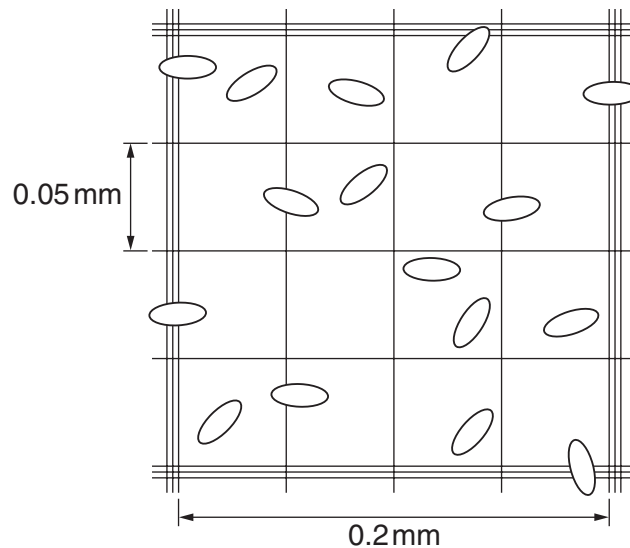

Fig. 3.1
Fig. 3.1 shows part of the haemocytometer. The depth of the suspension in the haemocytometer chamber is 0.1 mm.
- (b) With reference to Fig. 3.1, calculate the number of protoplasts in 1 cm^3 of suspension. Show your working.